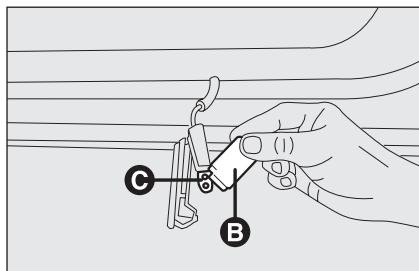

fig. 36
- ☐ press the bulb protection cover sides **B-fig. 36** on the two fastening pins and turn it;
- ☐ replace the snap-fitted bulb **C-fig. 36**;